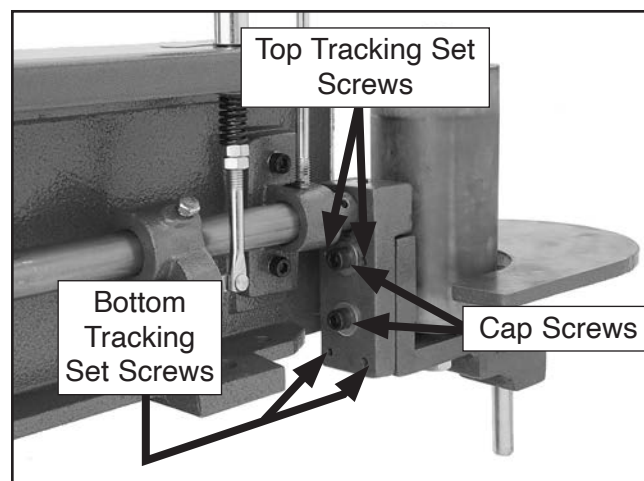

Figure 52. Idler roller adjustment screws.
4. Loosen the two cap screws behind the idler roller, shown in **Figure 52**, approximately half a turn, and notice the four set screws nearby—these control the parallel tracking of the sanding belt.
6. Tighten the two cap screws shown in **Figure 52**.